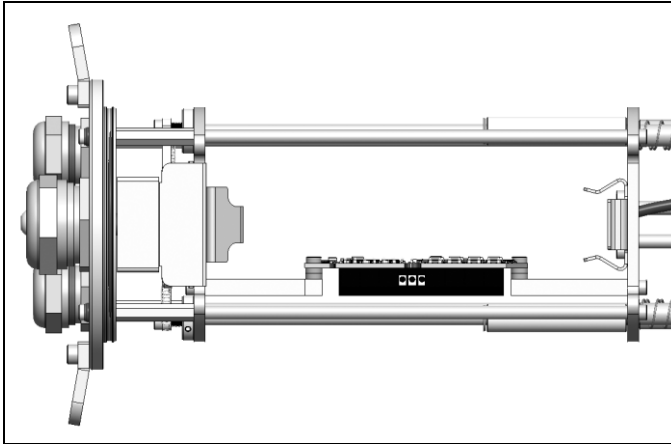

Figure 47: Mounting of the Industrial PIF (top view)
5. Fix the Industrial PIF with the screws (M3x5) as shown in **Figure 47**.